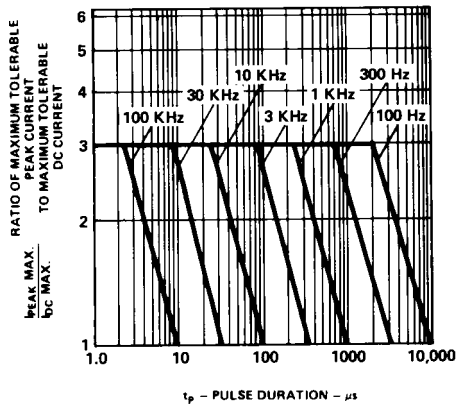

Figure 5. Maximum Tolerable Peak Current vs. Pulse Duration (IDC MAX as per MAX Ratings).
1. See Figure 5 (Red), 10 (Yellow), or 15 (Green) to establish pulsed operating conditions.